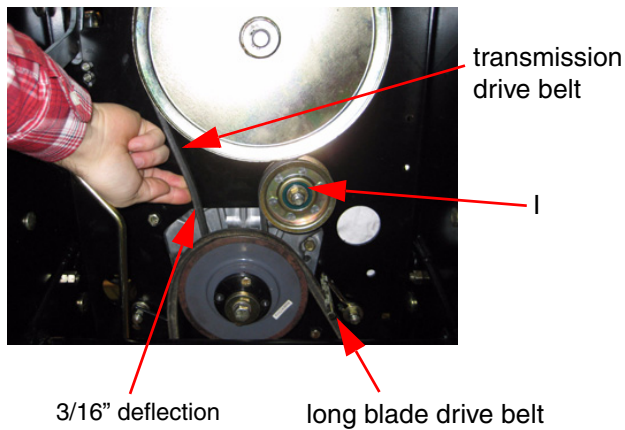

Figure 20
CHANGING THE TRANSMISSION DRIVE BELT: (See Figure 20)
3. Loosen the locknut (item I, Figure 20) holding the transmission drive belt idler pulley in place and slide the pulley away from the transmission drive belt.